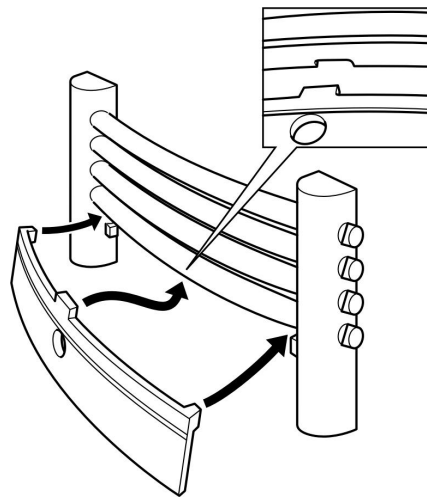

Figure 29. Coast firefront location
2. On models with a two piece firefront place the lower front cover casting / ash pan below the front casting. For the 'Coast' model see figure 29.